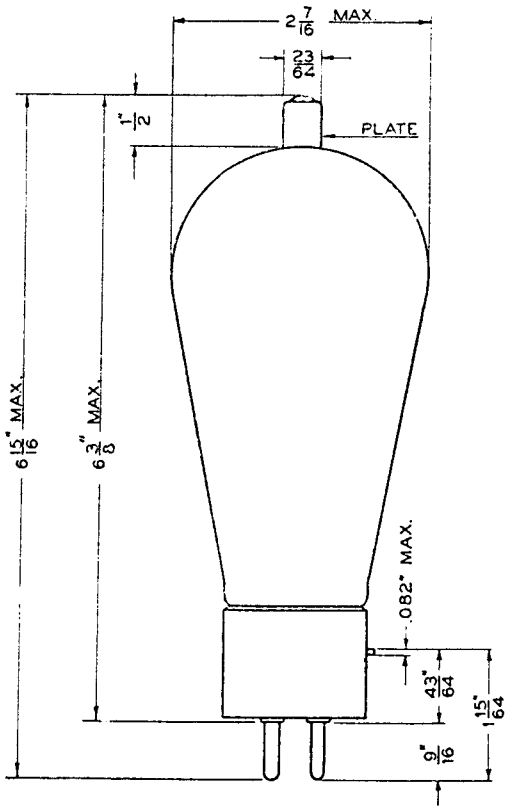

FIG. 1
**Dimensions**—Dimensions and outline diagrams are shown in Figures 1 and 2. The overall dimensions are:
**Mechanical**—Figures 1 and 2 show the overall dimensions and basing arrangement for the tube.